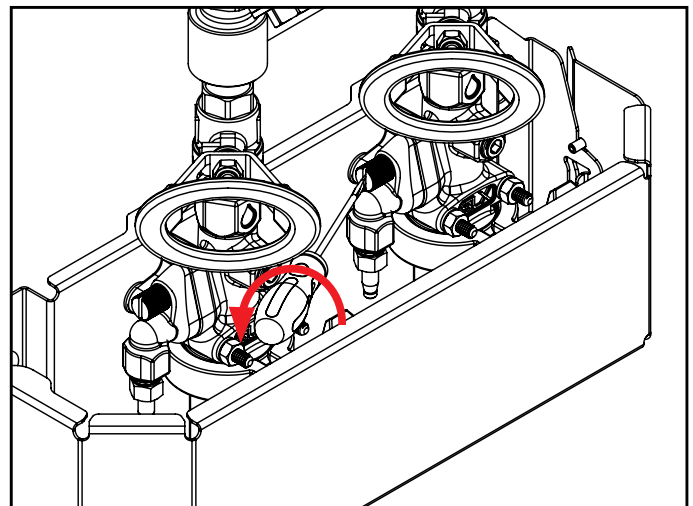

Fig. 10.1: Loosening thumb screw on elbow (chemical inlet)
3. Loosen the thumb screw on the elbow by hand or using a flathead screwdriver. [Fig 10.1]